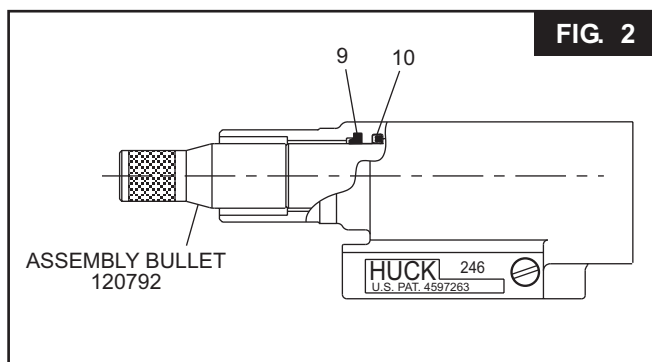

FIG. 2
NOTE: Piston will push out rear gland assembly. (Fig. 2)
**Assembly** (Refer to Figures 2, 3, 4, 5 and 9.)
14. Install Wiper (9) & Variseal (10) in head. (Fig. 2 & 9)
15. Thread assembly bullet onto Pull Piston (11), and push entire assembly into head. (Fig. 2)